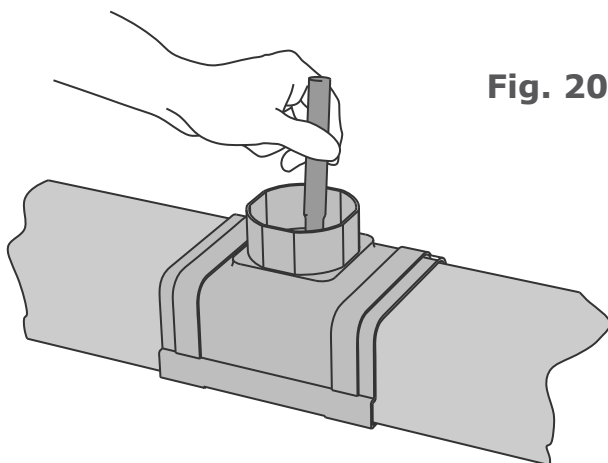

Fig. 20
12. Having determined the downpipe position, use the outlet fitting as a template for marking the position of the outlet hole on the gutter. Fig. 20.